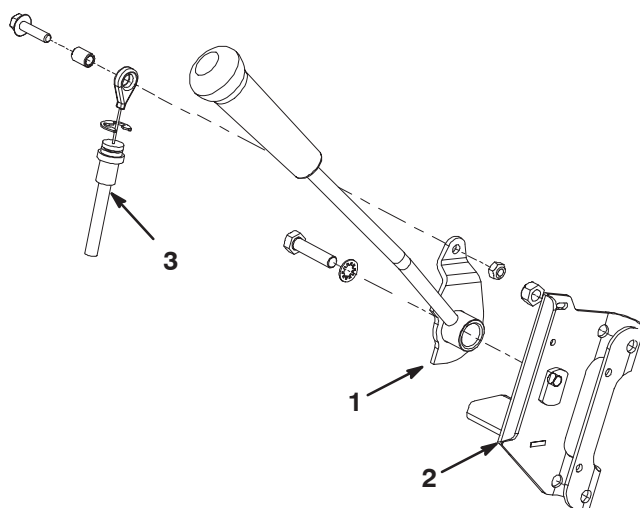

Figure 1
3. Remove the screw and lock washer securing the brake lever to the brake bracket (Fig. 1).
4. Remove the screw, spacer and nut securing the brake cable to the brake lever (Fig. 1). Allow the brake lever to hang in the slot in the console.
25. Secure the brake cable to the brake lever with the screw, spacer and nut previously removed (Fig. 1).
26. Secure the reel lever pivot pin to the control bracket with the screw previously removed (Fig. 1).
27. Secure the brake lever to the brake bracket with the screw and lock washer previously removed (Fig. 1).